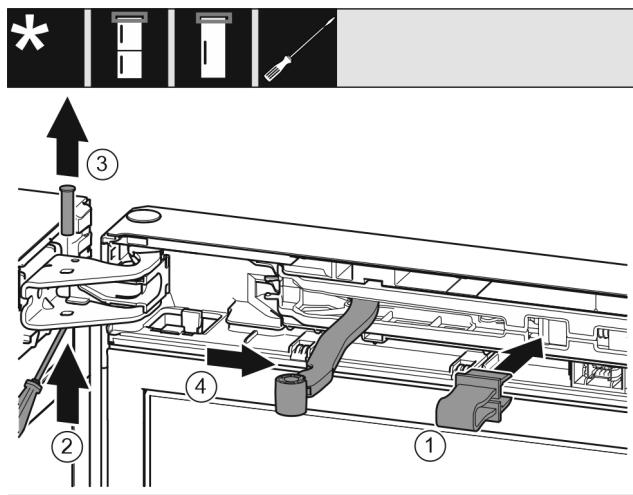

Fig. 11
- Snap the locking device *Fig. 11 (1)* into the opening.
- Pull out the pin *Fig. 11 (2)*.
- Pull out the pin *Fig. 11 (3)* upward.
- Turn the joint *Fig. 11 (4)* towards the door.